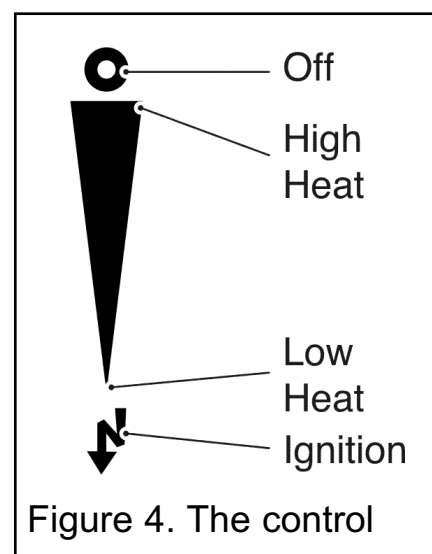

Figure 4. The control
The slide control is shown in figure 4.
the low heat position shown in figure 4 (See note i below). If for any reason the slider control does not spring up, raise the slider to the off (O) position (Topmost position) and contact your installer. Do not use the fire until the problem has been rectified.
4. For a higher heat level slide the button upwards. The burner flames and heat output will gradually increase until the button reaches the high heat position shown in figure 4. When the button reaches the high heat position you will feel a check to its movement. **Do not slide the button above the high heat position unless you want to turn the fire off** (See note i below).